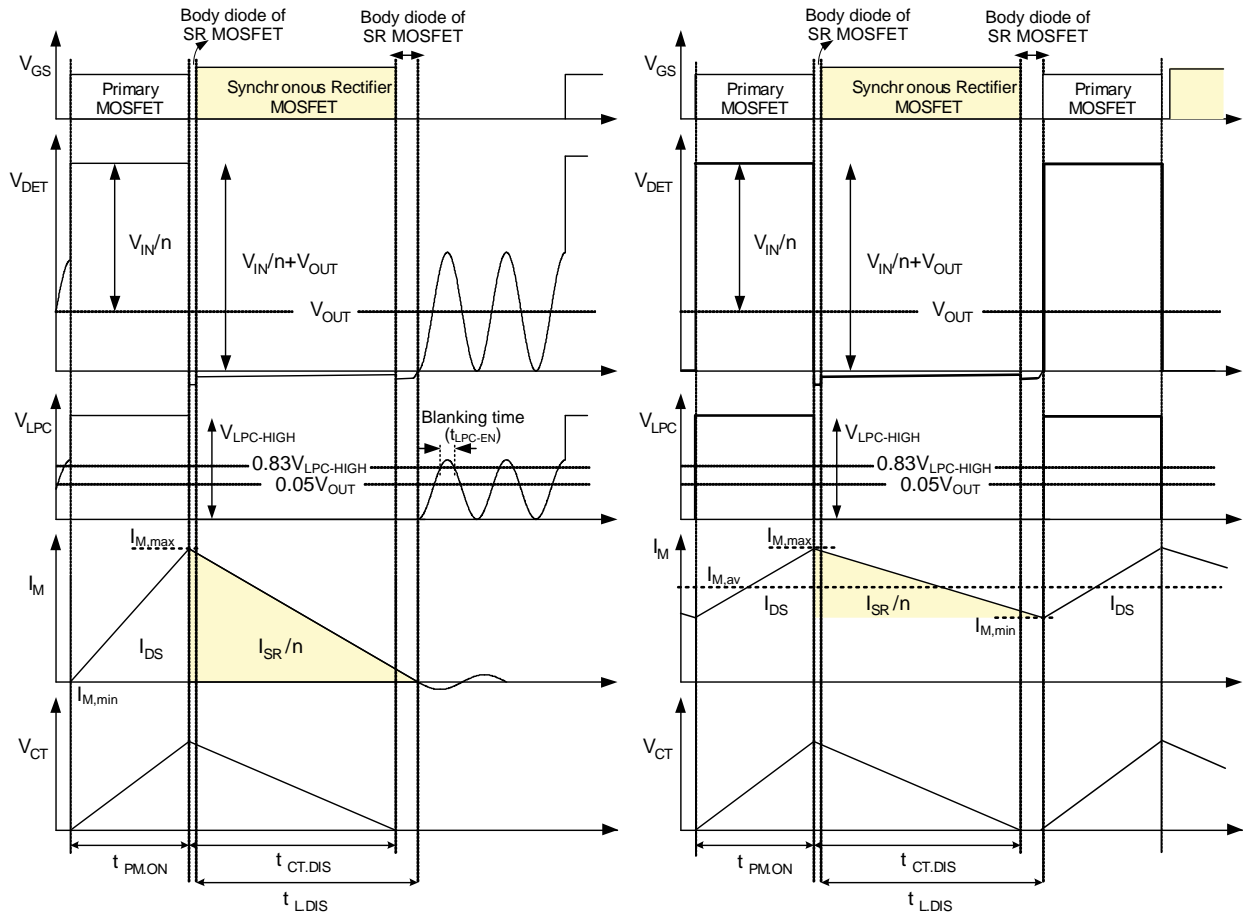
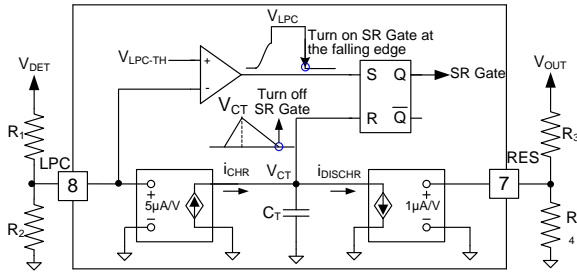

Figure 18. Typical Waveforms of Linear-Predict Timing Control in CCM and DCM/QR Flyback
Figure 19. Simplified Linear-Predict Block
The SR MOSFET turn-off timing is determined by linear-predict timing control and the operation principle is based on the volt-second balance theorem. The volt-second balance theorem states that the inductor average voltage is zero during a switching period in steady state, so the charge voltage and charge time product is equal to the discharge voltage and discharge time product. In flyback converters, the charge voltage on the magnetizing inductor is input voltage (V_{IN}), while the discharge voltage is nV_{OUT} , as the typical waveforms show in Figure 18. The following equation can be drawn:
FAN6204A uses the LPC and RES pins with two sets of voltage dividers to sense DET voltage (V_{DET}) and output voltage (V_{OUT}), respectively; so V_{IN}/n , $t_{PM,ON}$, and V_{OUT} can be obtained. As a result, $t_{L,DIS}$, which is the on-time of SR MOSFET, can be predicted by Equation (1). As shown in Figure 18, the SR MOSFET is turned on when the SR MOSFET body diode starts conducting and DET voltage drops to zero. The SR MOSFET is turned off by linear-predict timing control.
The linear-predict timing-control circuit generates a replica (V_{CT}) of magnetizing current of flyback transformer using internal timing capacitor (C_T), as shown in Figure 19. Using the internal capacitor voltage, the inductor discharge time ($t_{L,DIS}$) can be detected indirectly, as shown in Figure 18. When C_T is discharged to zero, the SR controller turns off the SR MOSFET.
Referring to Figure 18; when LPC voltage is higher than V_{LPC-EN} over a blanking time (t_{LPC-EN}) and lower than $V_{LPC-TH-HIGH}$ ($0.05 V_{OUT}$), then SR MOSFET can be triggered. Therefore, V_{LPC-EN} must be larger than $V_{LPC-TH-HIGH}$ or the SR MOSFET cannot be turned on. When designing the voltage divider of LPC, R_1 and R_2 should be considered as:
The typical waveforms of CCM operation in steady state are shown as Figure 18. When the primary-side MOSFET is turned on, the energy is stored in L_m . During the on-time of the primary-side MOSFET ($t_{PM.ON}$), the magnetizing current (I_M) increases linearly from $I_{M,min}$ to $I_{M,max}$. Meanwhile, internal timing capacitor (C_T) is charged by current source ($i_{CHR} - i_{DISCHR}$) proportional to V_{IN} , so V_{CT} also increases linearly.
In DCM / QR operation, when primary-side MOSFET is turned off, the energy stored in L_m is fully released to the output at the turn-off timing of primary-side MOSFET. Therefore, the DET voltage continues resonating until the primary-side MOSFET is turned on, as depicted in Figure 18. While DET voltage is resonating, DET voltage and LPC voltage drop to zero by resonance, which can trigger the turn-on of the SR MOSFET. To prevent fault triggering of the SR MOSFET in DCM operation, blanking time is introduced to LPC voltage. The SR MOSFET is not turned on even when LPC voltage drops below $0.05 V_{OUT}$ unless LPC voltage stays above $0.83 V_{LPC-HIGH}$ longer than the blanking time (t_{LPC-EN}). The turn-on timing of the SR MOSFET is inhibited by gate inhibit time ($t_{INHIBIT}$), once the SR MOSFET turns off, to prevent fault triggering.